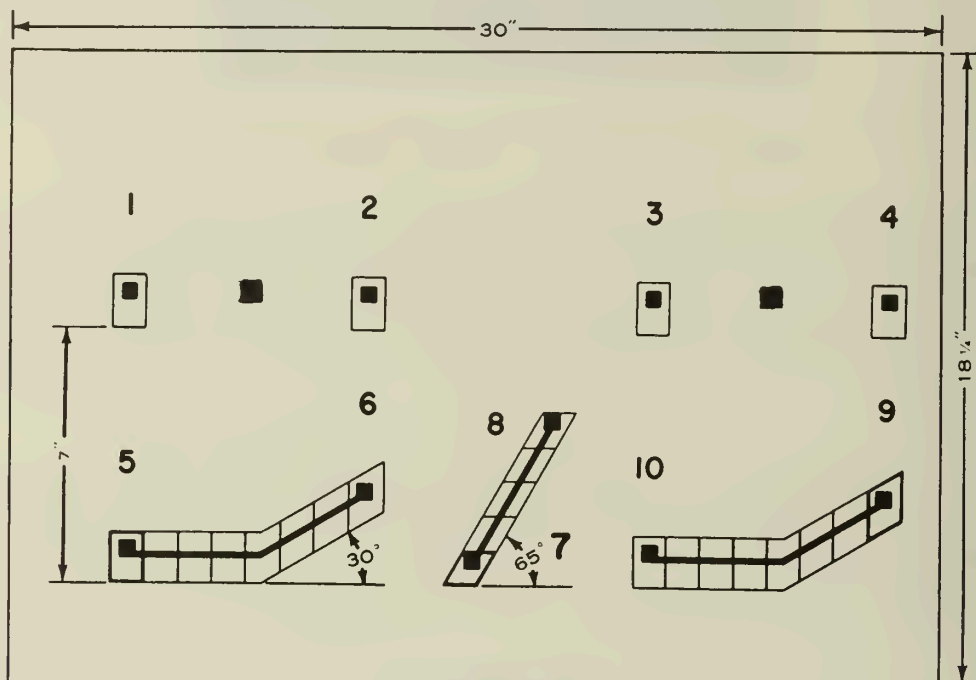

Figure 101. --12.7 Meter Target.
c. Zeroing. --Before firing the 12.7 meter course for record, the gun must be zeroed. To accomplish this, two solid black pasters are placed on the standard 12.7 meter (500 inch) target. The paster between numbers one and two is the zeroing paster. The other solid black paster is located between numbers three and four. It is the confirming paster. (See fig. 101.)
(1) The gunner sets a range of 500 meters on his rear sight and aligns the zero index on the rear sight leaf with that on the sight base. He assumes the correct position behind the gun and aims at the zeroing paster, firing a six round belt.